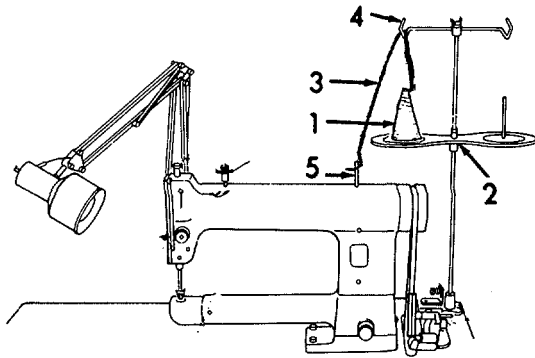

Figure 2-38. Thread Cone, Installation.
c. *Threading the Darning Sewing Machine (Refer to Figures 2-38 and 2-39).*
(1) Refer to Figure 2-38. Place thread cone (1) on thread unwinder base (2).
(2) Feed loose end of thread (3) through unwinder loop (4) and then through post (5).